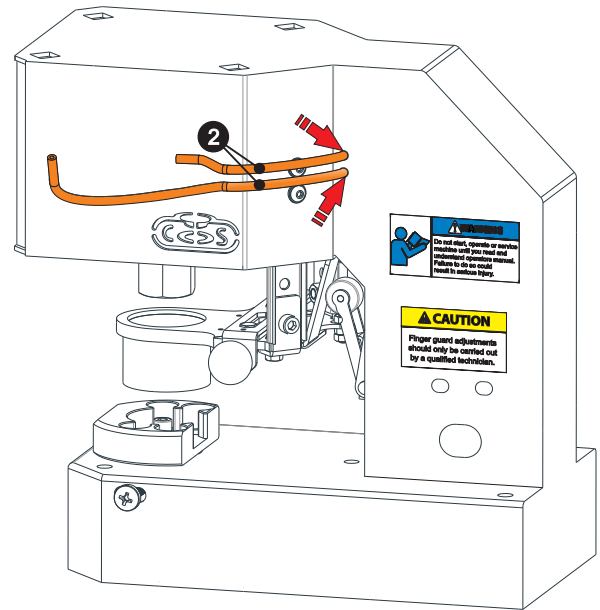

fig. 92
Pull the hoses ❷ out of the machine and locate them where the short and the long hose stay up and down respectively as shown in (fig. 92).